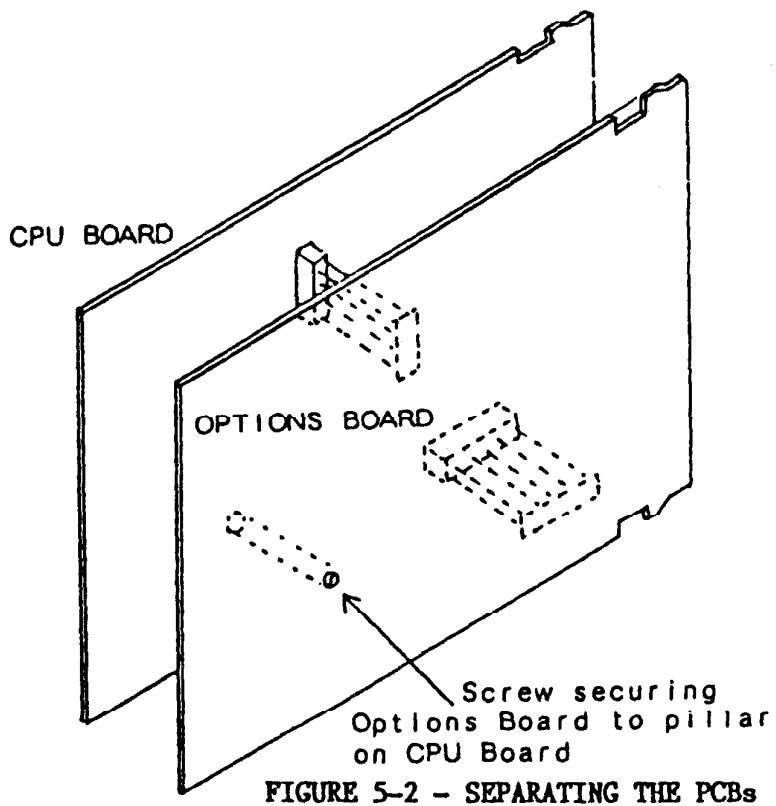

FIGURE 5-2 - SEPARATING THE PCBs
3) Extract the screw securing the Options Board to the pillar on the CPU Board (See Figure 5-2), then pull the two boards apart, keeping them parallel to avoid bending the plugs and sockets which link them.